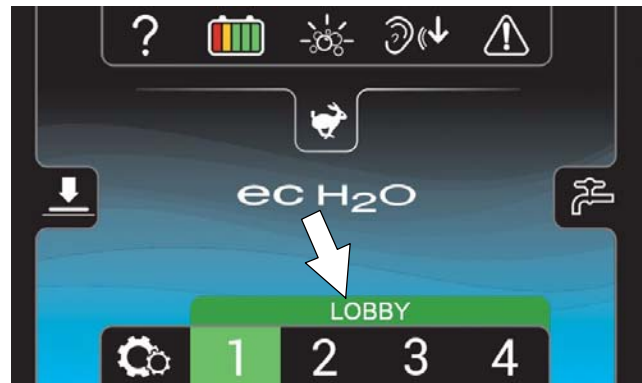

FIG. 66
4. The name will appear above the zone setting number when the zone button is pressed (Figure 66). Repeat process for other zone presets.